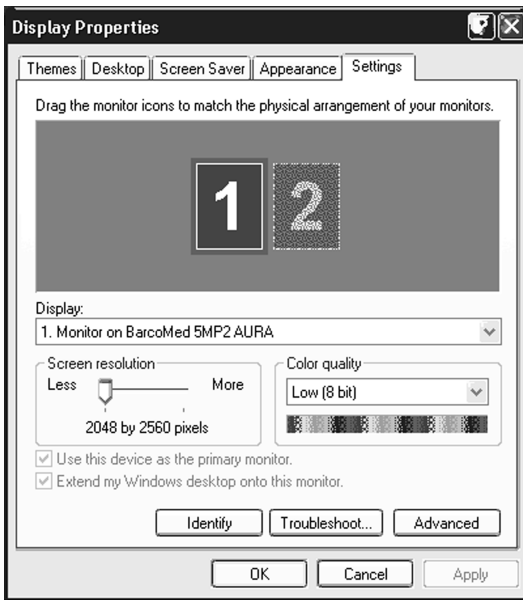

Figure 26: Windows XP Display Properties Settings Tab after the BarcoMed 5MP2 AURA driver has been installed and the resolution set.
2. Select the **“Settings”** tab (see figure 26 on the next page). Now select the **rectangle** that represents the first high resolution display attached to the BarcoMed Display Controller you are working with.
Note: The system shown in figure 26 is a dual-head, single BarcoMed 5MP2 AURA Display Controller, no 3rd party VGA controller configuration, your system may look different.